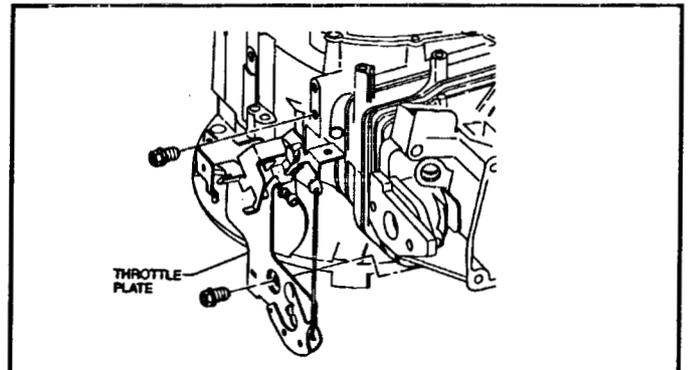

Figure 90
1. Install the two 3/8" hex, washer head screws that retain the throttle bracket to the engine block. Torque the screws to 85 in lbs (9.5 Nm) See Figure 90.